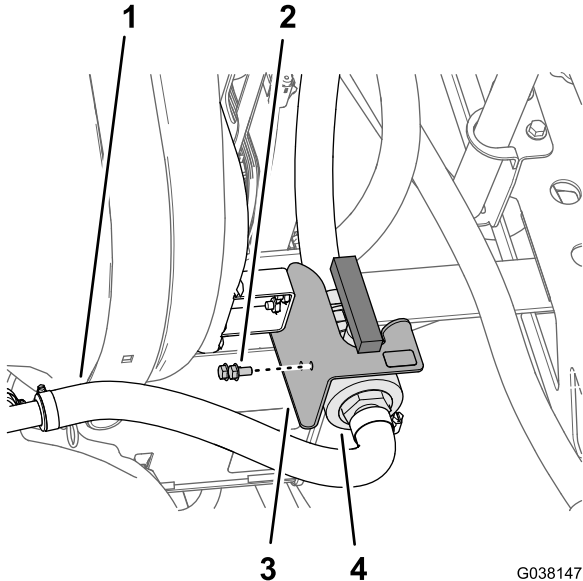

Figure 21
1. Remove the 2 flange-head bolts (5/16 x 5/8 inch) that secure the agitation throttle valve to the throttle-valve bracket (Figure 21).